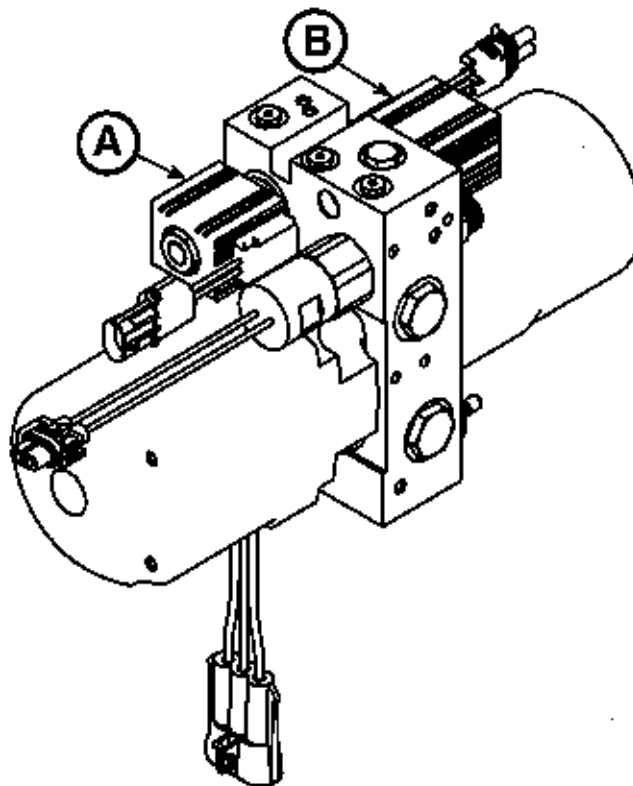

Figure 108
5. Using a 3/4" combination wrench, remove the nut that secures the solenoid to the A valve (A) or B valve (B) (Figure 108). Save the nut for reinstallation.